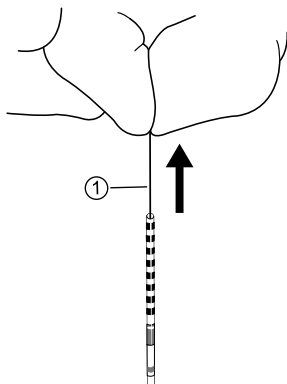

Figure 4. Removing the stylet.
① Hold the stylet
7. Remove the stylet from the lead (Figure 4).